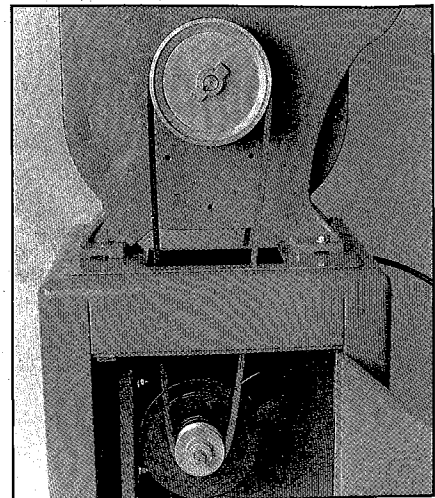

Fig. 1
2. Remove the pulley cover from the stand top and open the stand door. See figure 1.